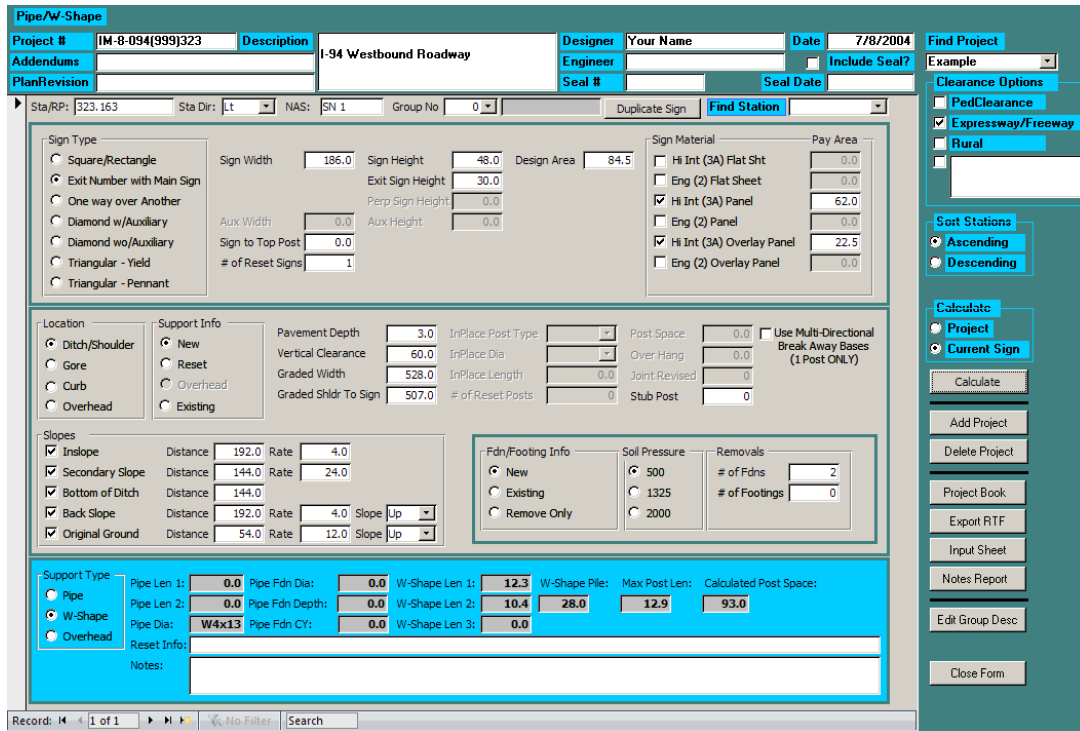

Figure 10 – Pipe/W Shape Example Data Input Screen
24. Choose “Current Sign” in the **Calculate** box and click the **Calculate** button. The screen should look similar to the shown in Figure 10.